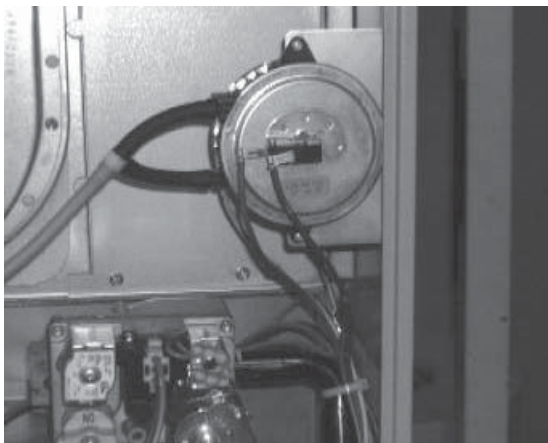

Figure 1
2. Remove pressure switch assembly by removing two mounting screws, disconnecting rubber hose and disconnecting wiring. (See Figure 1 for typical location.)